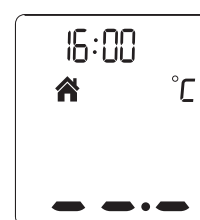

Figure 5
1. Press the **ON** BUTTON to turn on the thermometer, you can take the object temperature after hearing two beep sounds. (see figure 5)